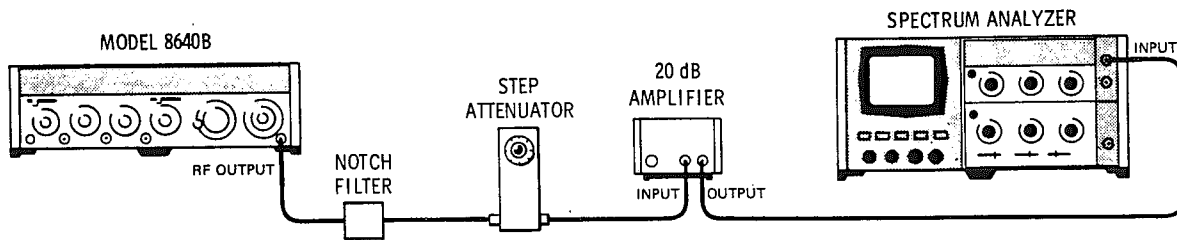

Figure 4-5. Sub-Harmonics and Non-Harmonic Spurious Test Setup
1. Connect equipment as shown in Figure 4-5 after setting Signal Generator's controls as follows: